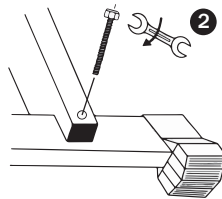

Fig. 42
- Fix the stabilizers with the bolts that are on the ladder. (Fig. 42)